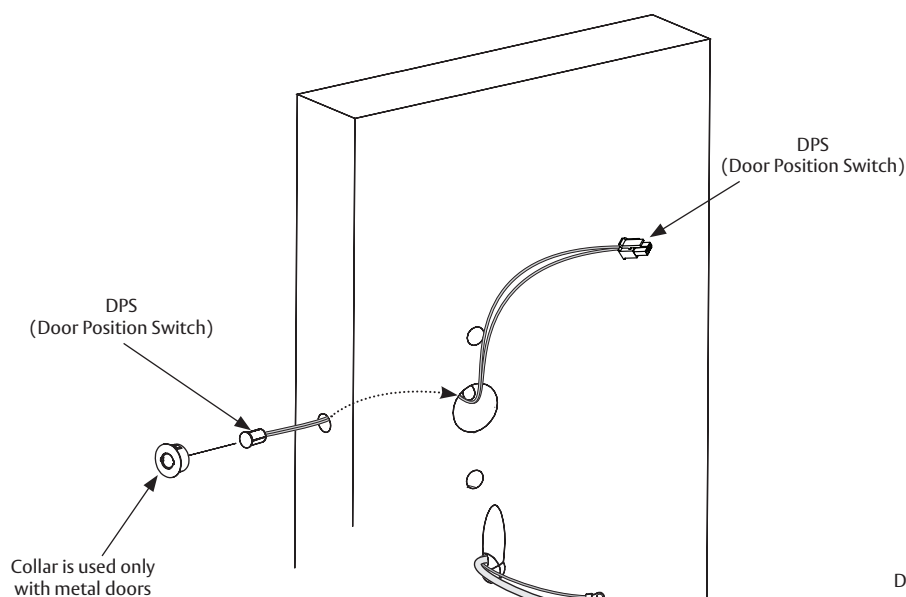

Figure 6-2A
1. Insert connector end of DPS through the raceway on the latch edge of the door (Figure 6-2A).